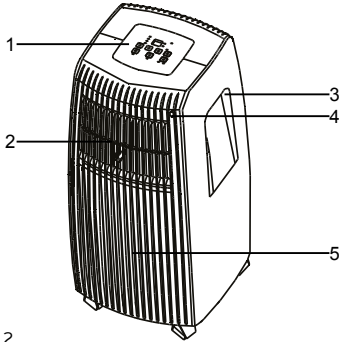

Fig. 2
4. DEVICE DESCRIPTION (Fig. 2 and 3)